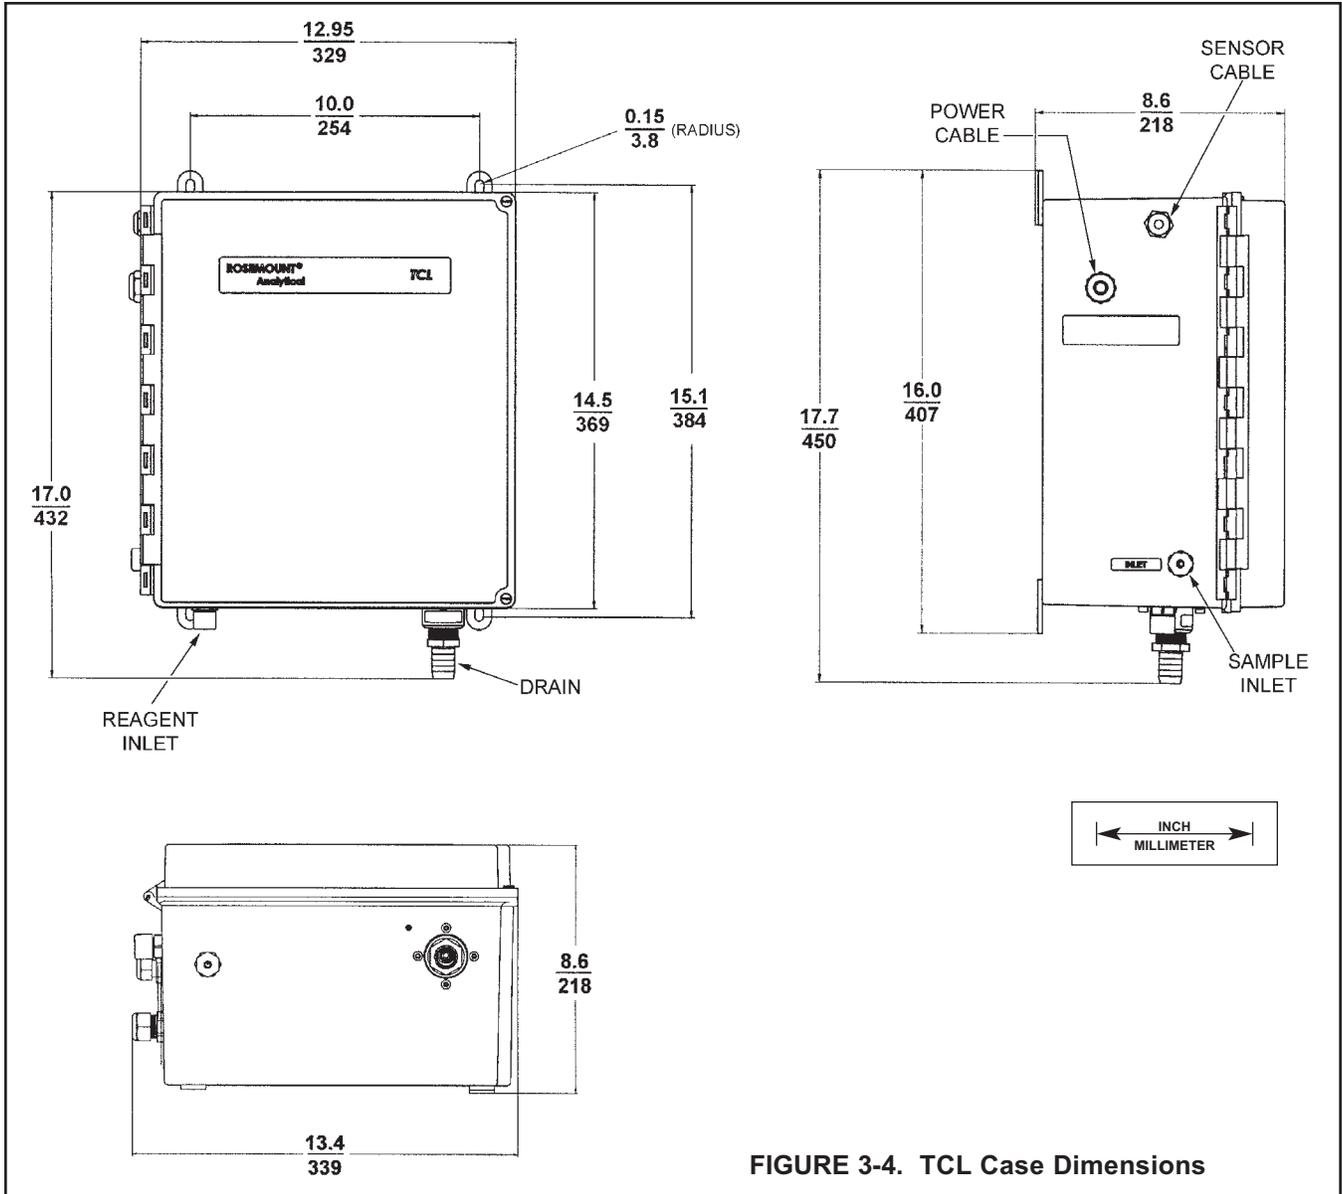

FIGURE 3-4. TCL Case Dimensions
3. Insert the power cable through the strain relief connection labeled power (see Figure 3-4). Wire the power cable to the terminal strip as shown in Figure 4-1. Do not apply 230 Vac power to a 115 Vac TCL (Model option -11). Doing so will damage the instrument.